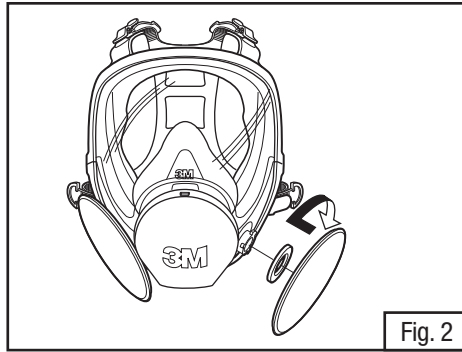

Fig. 2
3. Repeat for second filter (Fig. 2).